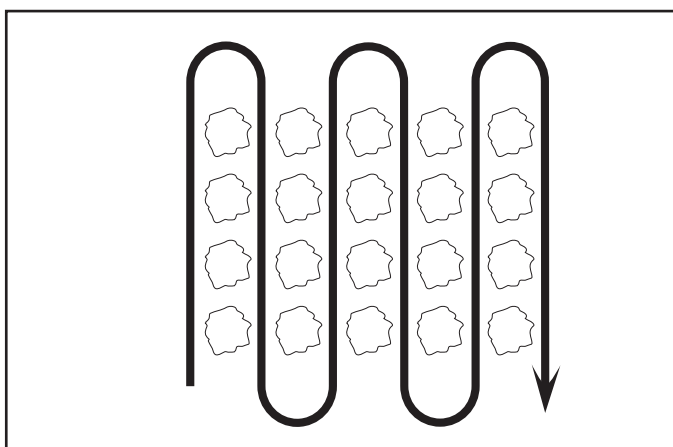

FIG. 16
## CULTIVATING (See Fig. 16)
- Cultivate up and down the rows at a speed which will allow tines to uproot weeds and leave the ground in rough condition, promoting no further growth of weeds and grass (See Fig. 16).